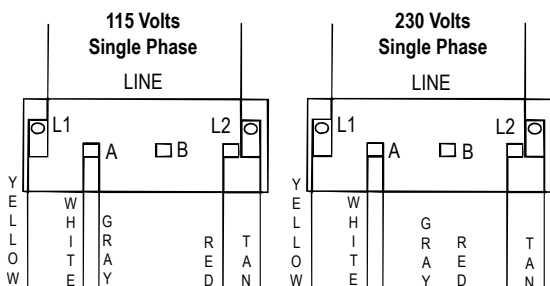

Figure 3.
WARNING Use wire size specified in wiring Chart A. If possible, connect pump to a separate branch circuit with no other appliances on it. If wiring diagram on motor model plate differs from diagram shown in figure 3, follow diagram on motor.
2. To change voltage, remove the rear access cover, which is held in place with two (2) screws. For proper electrical connection, refer to the connection diagram located on the motor nameplate or Figure 3.